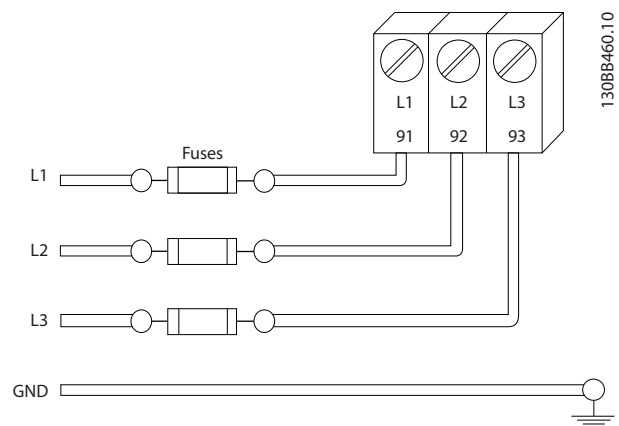

Figure 2.7 Adjustable frequency drive Fuses
- All adjustable frequency drives must be provided with short-circuit and overcurrent protection. Input fusing is required to provide this protection, see *Figure 2.7*. If not factory supplied, fuses must be provided by the installer as part of installation. See maximum fuse ratings in 10.3 *Fuse Tables*.